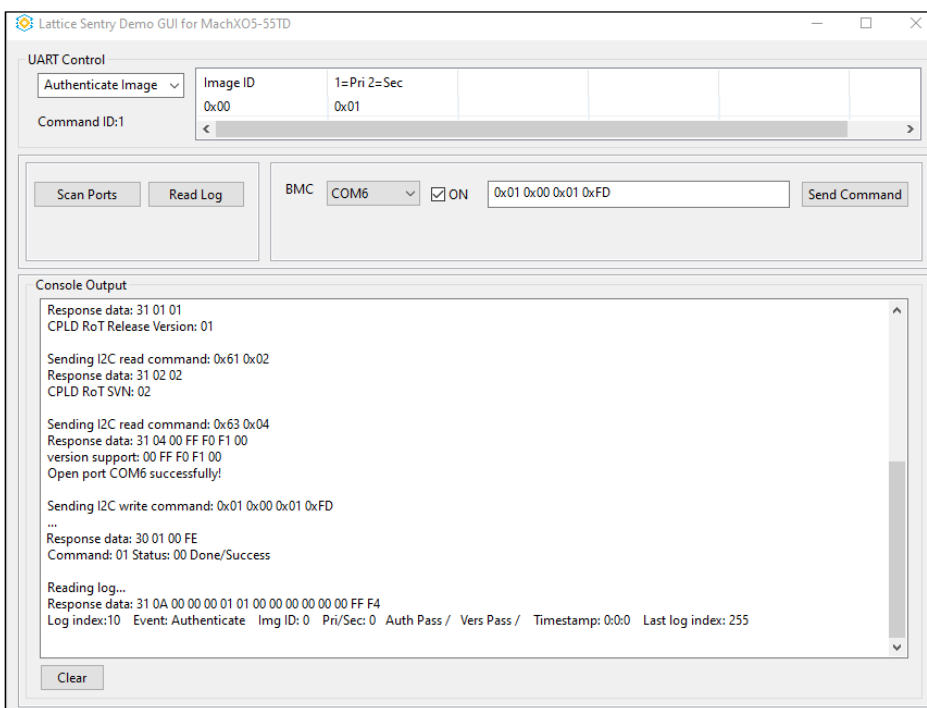

Figure 9.9. Lattice Sentry Demo GUI Read Log
12. Click **Read Log** to view the most recent log entry. Continue clicking Read Log to view earlier log entries (Figure 9.9).